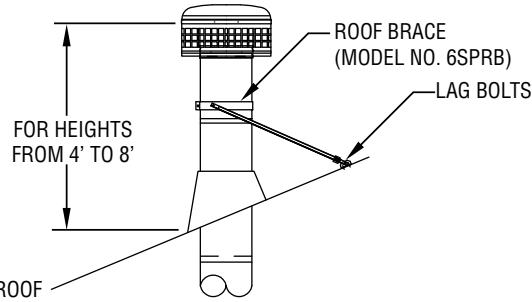
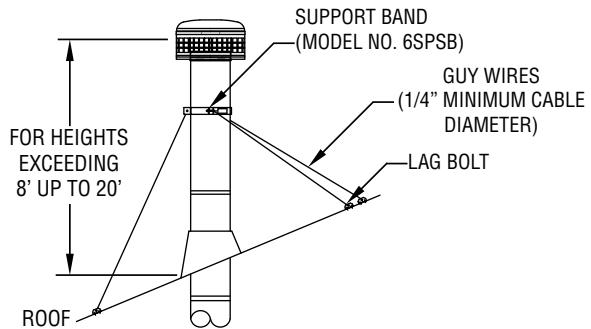

Figure 36
Figure 37
Select the proper support for your application-using either a roof brace (*Figure 36*), or a support band with guy wires (*Figure 37*).
3. Position the support legs as shown in *Figure 36*. The length of the support legs can be adjusted by loosening the bolt on the leg clamp.